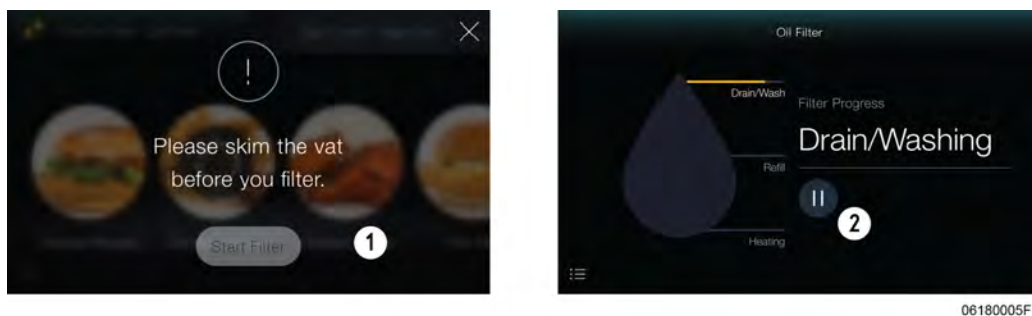

Figure 4-14
- 2) **Skim vat** - Use a skimming tool (not provided with the F5) to skim the top of the oil to remove floating crumbs and product from the surface of the oil, and then confirm by tapping **OK**, see (1) in Figure 4-14 , page 30.
- 3) **Drain / Wash** - Oil drains to the filter pan and pumps to wash crumbs down the open drain, see (2) in Figure 4-14 , page 30.